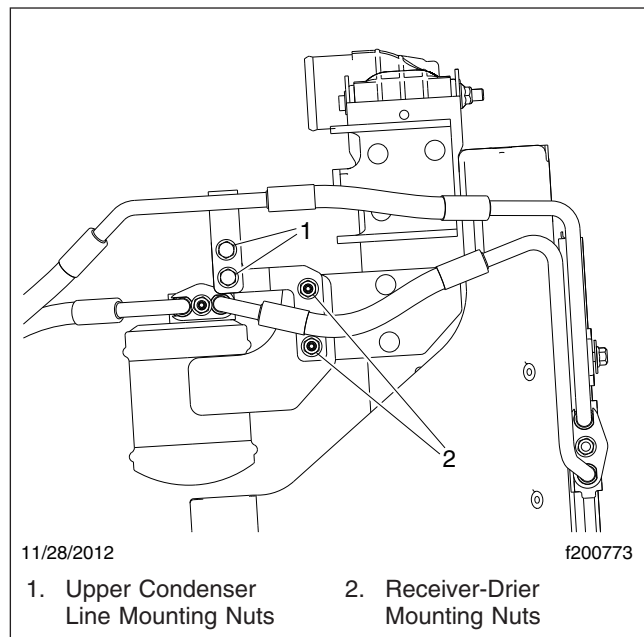

Fig. 8, Receiver-Drier Installation (typical)
- 10.1 Remove the receiver-drier and upper condenser-line mounting nuts, then free the receiver-drier. See Fig. 8.
- 37.2 Position the receiver-drier and upper A/C line on their respective brackets and install the mounting nuts. See **Fig. 8**. Tighten the nuts 14 to 16 lbf·ft (19 to 22 N·m).